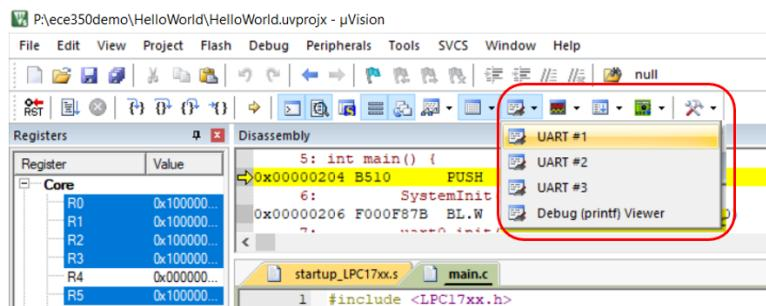
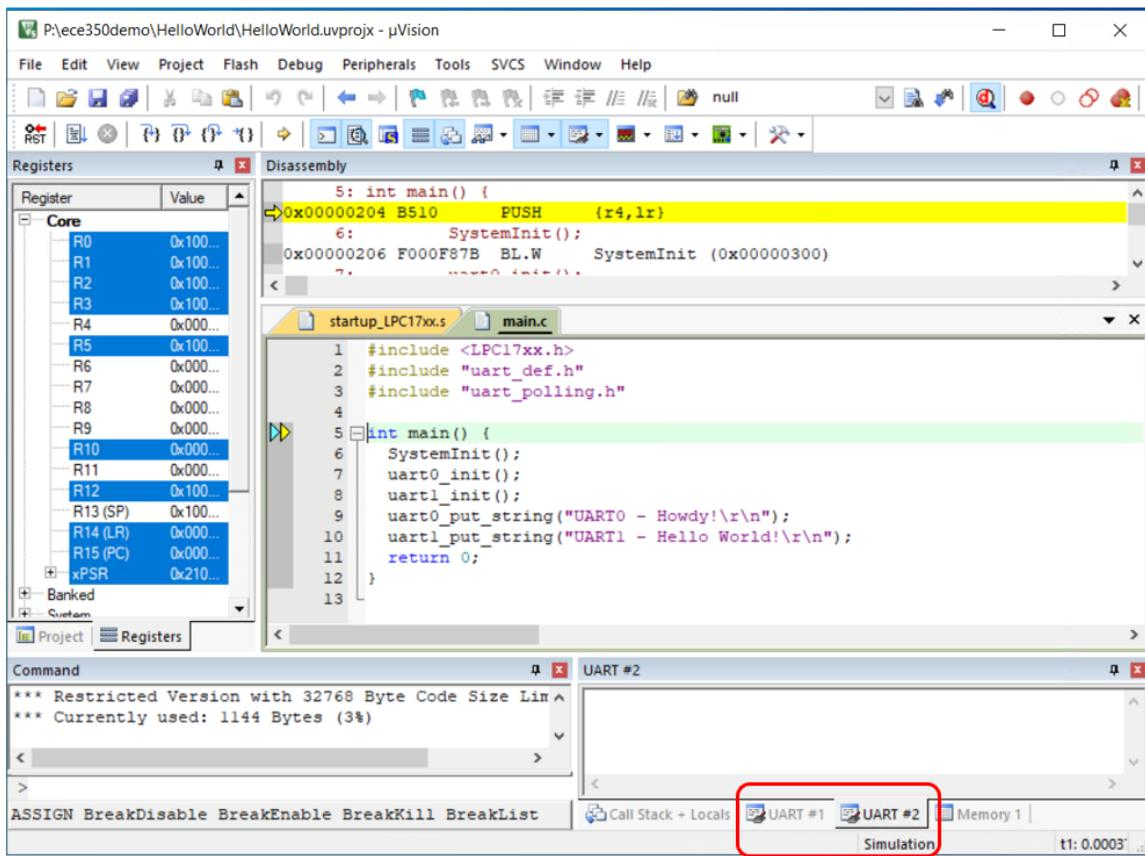

Figure 8.19: Keil IDE: Debugging. Enable Serial Window View.
Figure 8.20: Keil IDE: Debugging. Both UART0 and UART1 views are enabled in simulator.
3. Select UART1 and UART2 (see Figure 8.19) from the serial window drop down list so that they appear in simulator (see Figure 8.20). Note that the hardware UART index starts from 0 and the simulator UART index starts from 1. So the UART1 window in simulator is for the UART0 on the board. The UART2 window in simulator is for the UART1 on the board.